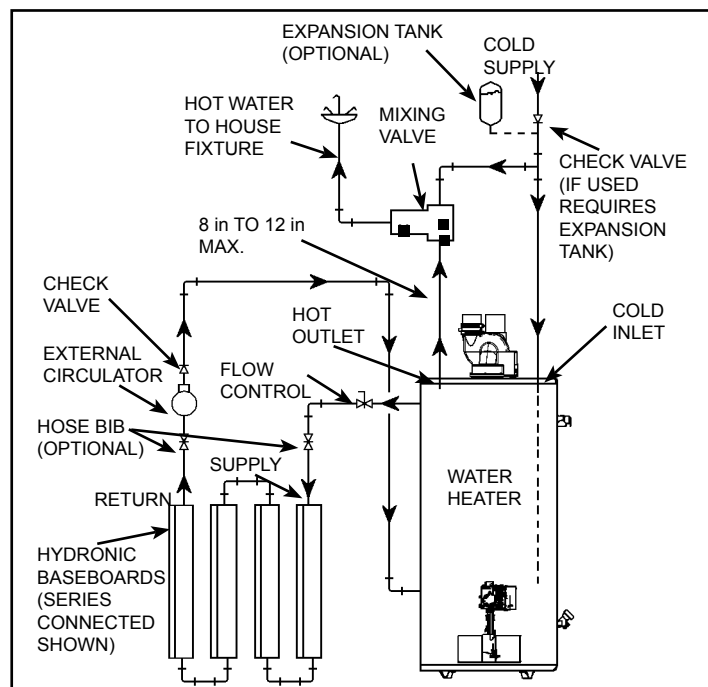

Figure 43
- B. A hydronic baseboard (finned tube) loop/In floor heating (Figure 43).